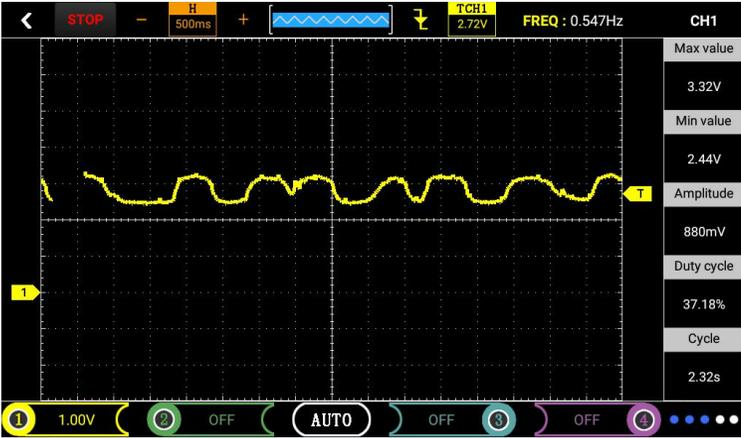

Figure 14
- ③ Connect the probe to the corresponding channel of the oscilloscope and set the probe in 1X position, then ground it to signal ground or ground.
- ④ Since the oscilloscope "zirconia oxygen" "zirconia oxygen front and rear oxygen" and "titanium oxygen" "broadband type" function has been set by default (probe block 1X, time base profile 1s), simply send the probe to the corresponding signal can be intuitive The waveform is shown in Figure 14,15.